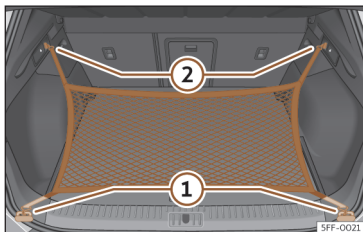

Fig. 193 In the luggage compartment: rings ① and hooks ② for attaching the net bag.
- Secure the short net hooks to the fastening rings >>> **Fig. 193** ① >>> ⚠. The bag zip should be facing upwards.
- Secure the straps in the bag hooks ②.